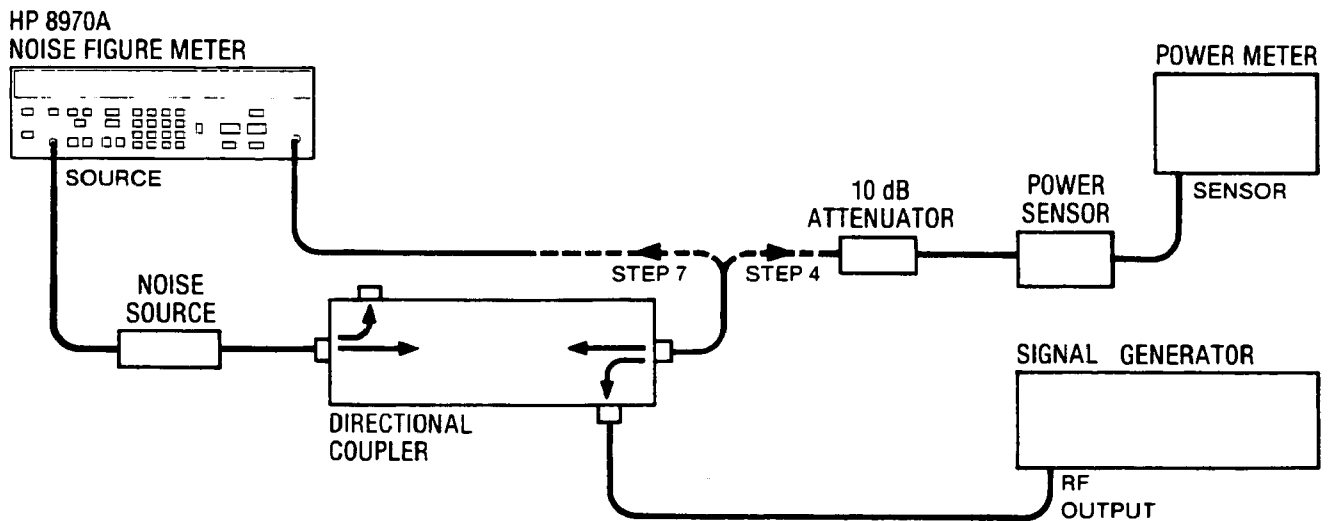

Figure 4-4. Spurious Response Test Setup
4. Connect the equipment as shown in Figure 4-4.